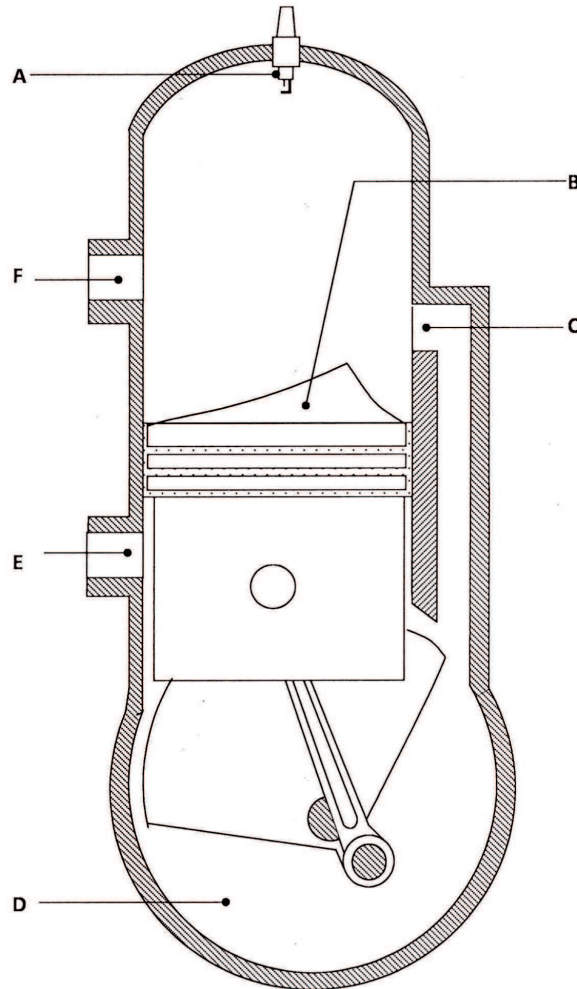

**Figure 1**
- 11 **Figure 1** shows three orthographic views of a block drawn in first angle projection.